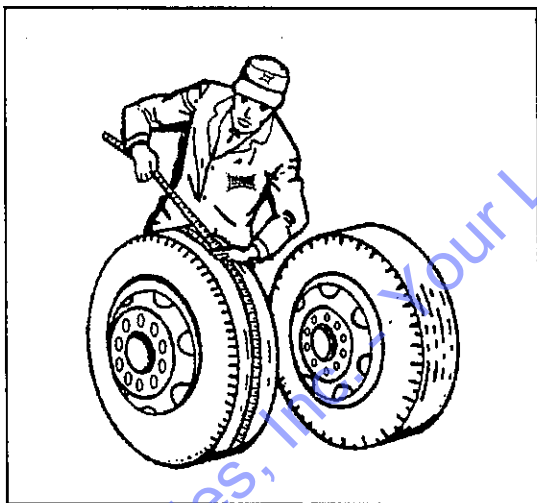

Fig. 4-17 Measuring Tape Method
a. Tape Measuring Method: Measure around each tire on the tread surface. A maximum difference of $3/4"$ is allowed between the two mating tires of a dual (See **Figure 4-17**).